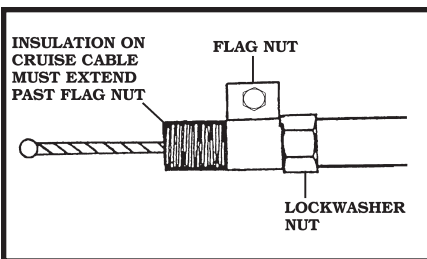

Figure 28
2. After the threads have been formed, screw the **FLAG NUT** onto the **CRUISE CABLE**. **Figure 28**